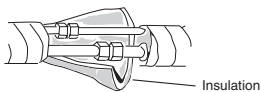

Fig. 3-62
- (3) Carefully bend the tubing (if necessary) to run along the wall in the direction of the outdoor unit and then tape as far as the fittings. The drain hose should come straight down the wall to a point where water runoff won't stain the wall.
- (4) Connect the refrigerant tubing to the outdoor unit. (After performing a leak test on the connecting part, insulate it with the tubing insulation. (Fig. 3-62)
- (5) Assemble the refrigerant tubing, drain hose, and inter-unit wiring as shown in Fig. 3-62.